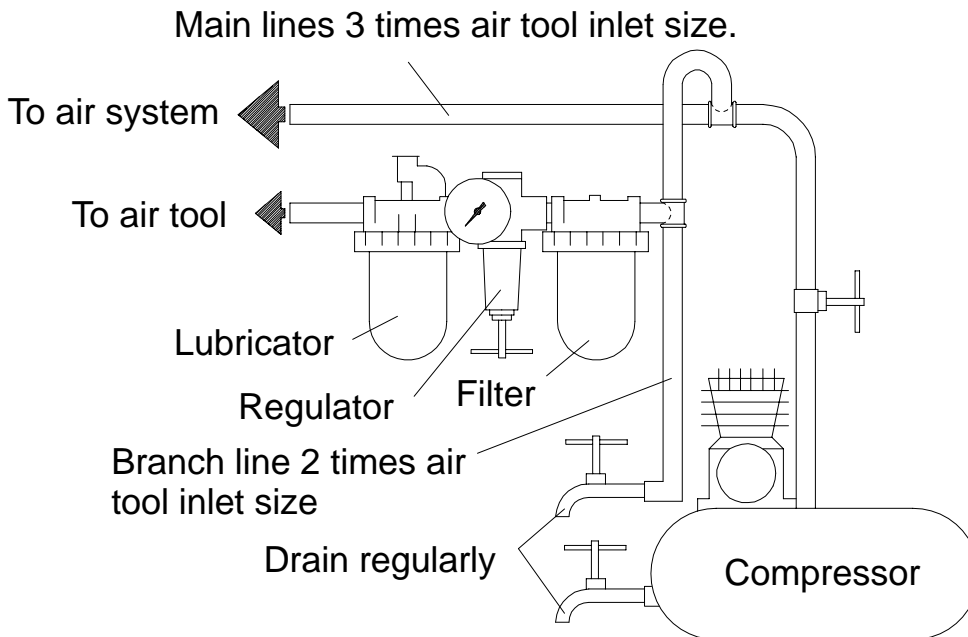

Figure 1
- Be sure all hoses and fittings are the correct size and are tightly secured. See Figure 1 for a typical piping arrangement.
increase the life of an air tool. The filter removes dust and moisture. Be sure all hoses and fittings are the correct size and are tightly secured. See Figure 1 for a typical piping arrangement.